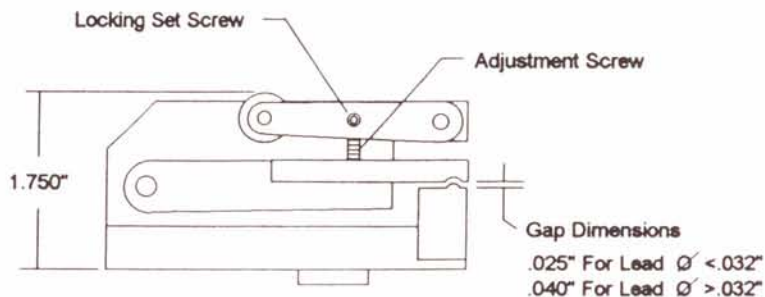

Figure 1
2. Manually operate the die until a dimension of 1.750" is measured from the top of the bearing to the bottom of the die as shown in figure 1.
3. Loosen the locking set screw and turn the adjustment screw in the direction as needed until the applicable gap dimension is measured between the upper and lower die inserts as shown in figure 1.